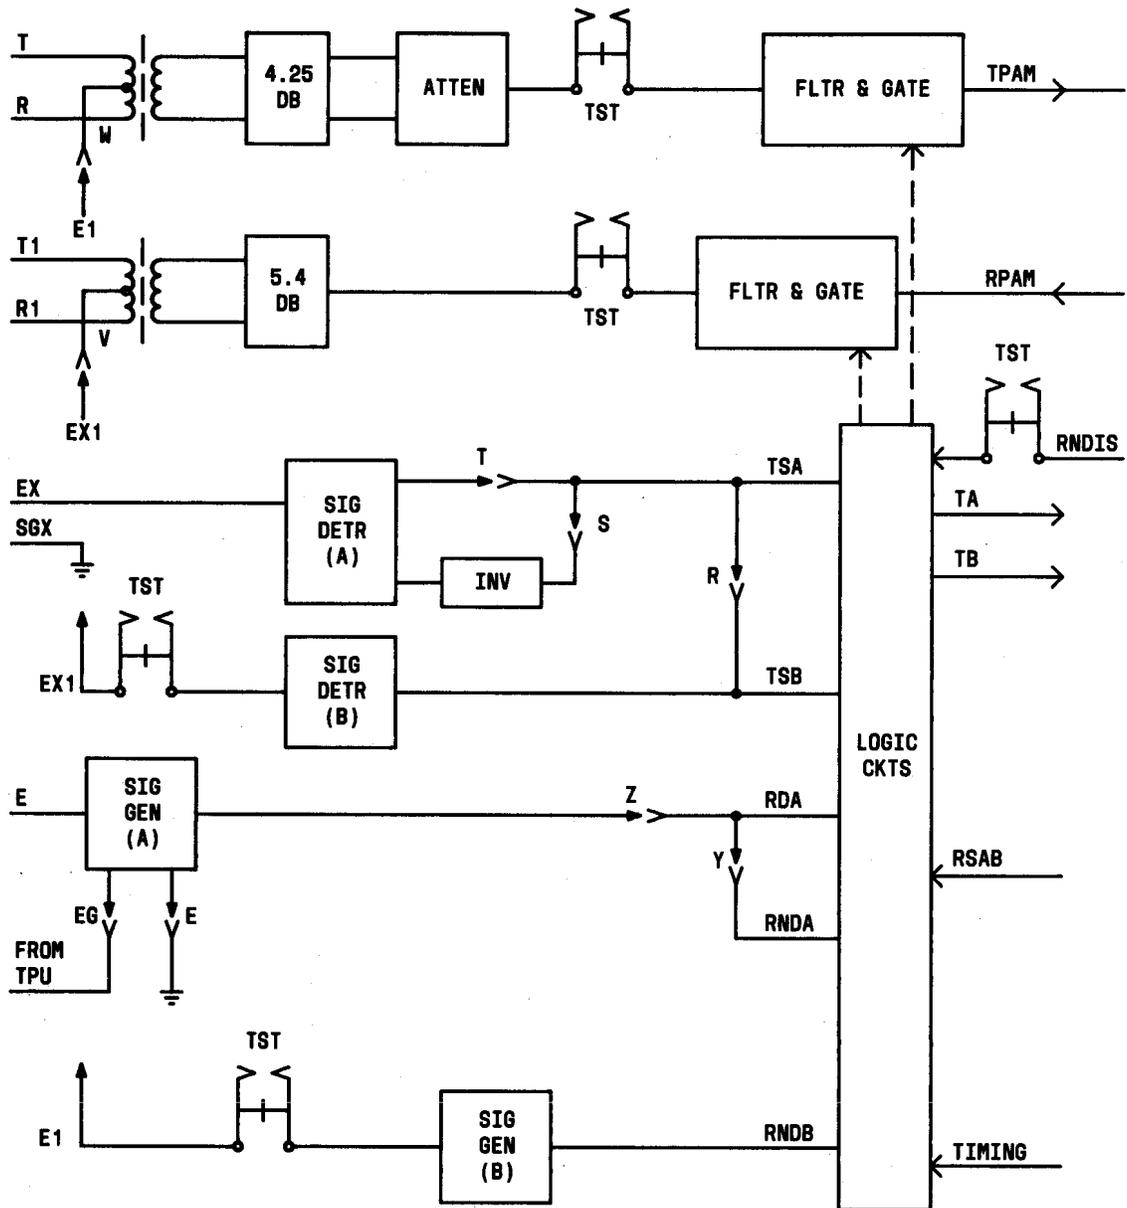

Fig. 5—TDM Block Diagram
2.06 Figure 5 is a block diagram of the unit. In the transmit path are a transformer, fixed pad,
2.09 This unit contains two transmitting signaling detectors (Fig. 5). The detector for the TSA lead represents the open/ground condition on the EX